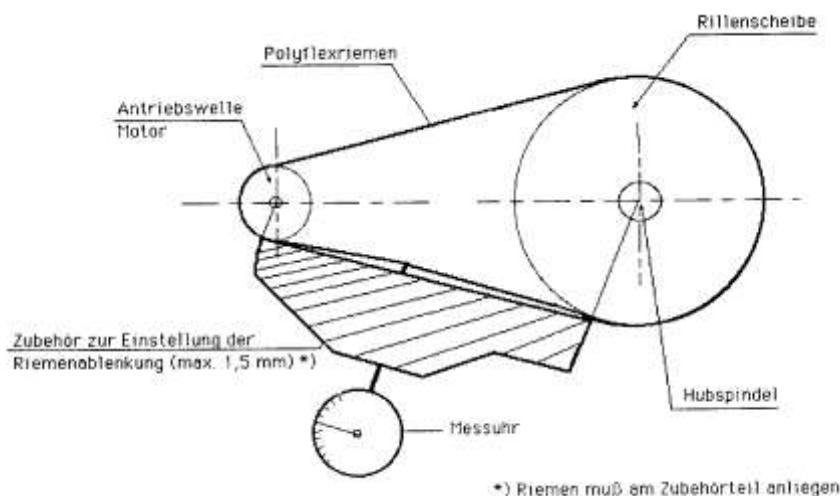

Figure 16:
- The measurement device, as can be seen in Figures 16 and 17 on the polyflex belt.